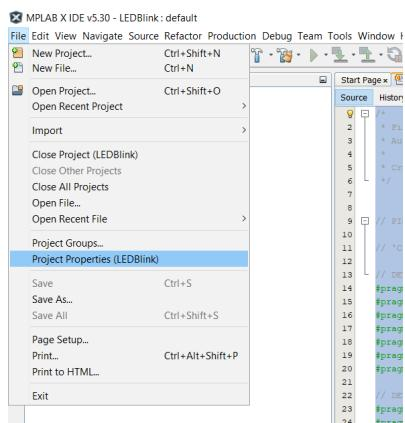

Fig. 7.1
1. After successful build of the project, under file menu select Project Properties. (Refer Fig. 7.1)